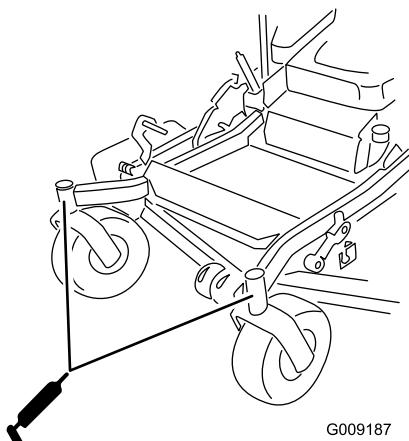

Figure 6
3. Check the grease in the caster pivots and caster wheel bearings (Figure 6).